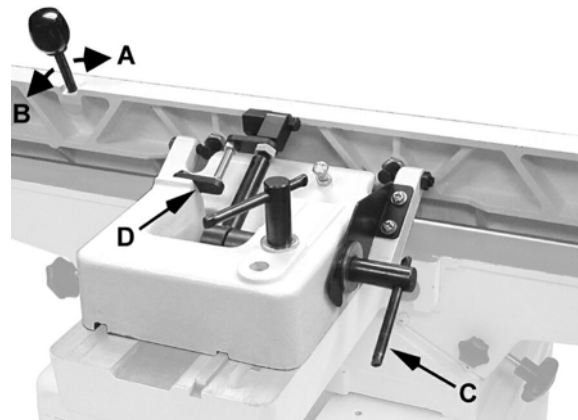

Figure 12
1. Loosen locking handle (C, Figure 12).
2. Move the lever forward (A, Figure 12) to the desired angle down to 45 degrees. Or you can place your reference piece on the table and against the fence, and adjust the fence until the angle of the fence matches the bevel of your gauge piece.
3. Tighten locking handle (C, Figure 12).
2. Loosen locking handle (C, Fig. 12).
3. Flip the 90° stop block (D, Fig. 12) out of the way.
4. Move the lever back (B, Fig. 12) to the desired angle up to 135 degrees. Or you can place
5. Tighten locking handle (C, Fig 12).
Important: When the tilted operation is finished and the fence is returned to 90°, do not forget to flip the 90° stop block (D, Fig. 12) back to its original position.